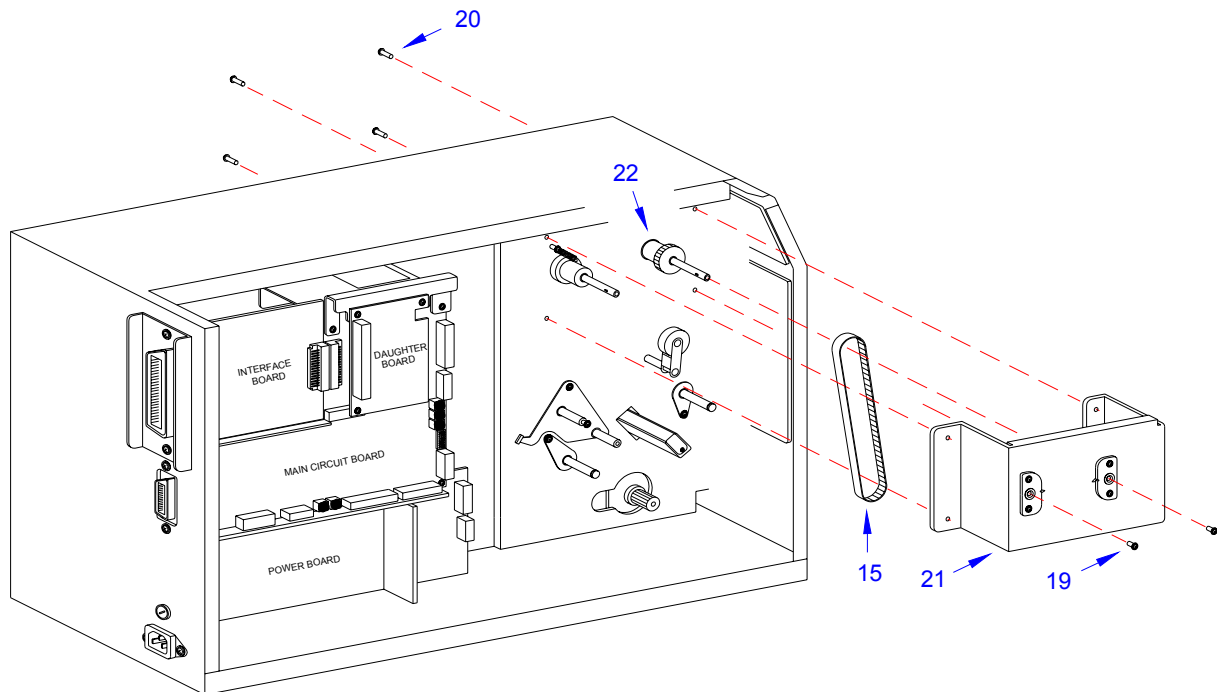

Figure 7-12d, Ribbon and Rewind Belt Replacement
- 9 Remove two screws (19, Figure 7-12d) and four screws (20) and withdraw ribbon frame (21).
- 10 Remove ribbon rewind belt (15) from ribbon rewind spindle pulley (22).
- 11 Prepare to replace timing belts (3), (4), (14), and (15).
- 12 Apply replacement belt (15) to pulley (22) and allow to suspend.
- 13 Apply ribbon frame (21) to the printer frame and secure using four screws (20) and two screws (19).